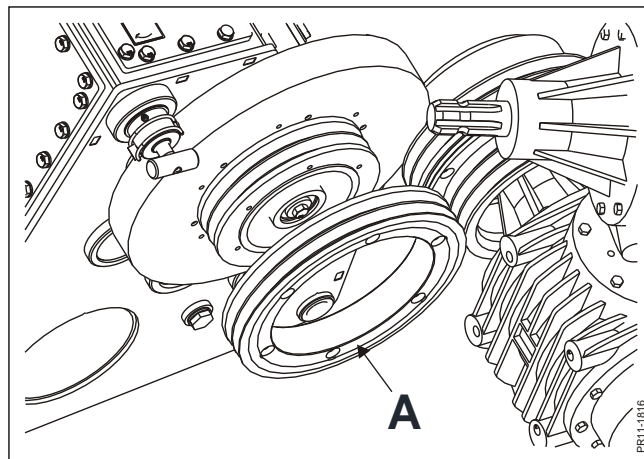

Fig. 4-23
**Fig. 4-23** If a particularly short cutting length is desired, the outer belt pulley **A** must be moved from the turning gear to the harvesting gear. This allows the following cutting lengths to be obtained: